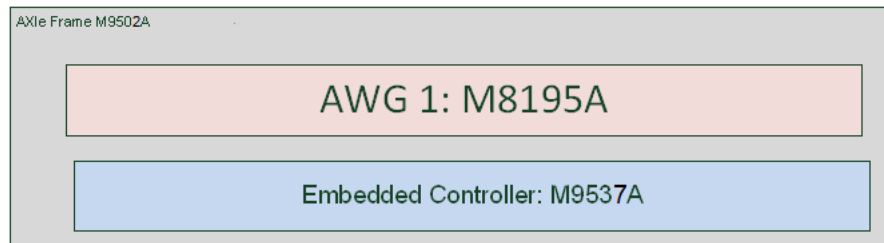

Figure 8 Hardware setup for Single-lane with module M8195A
- 1 Insert an M8195A and an Embedded Controller in the 2 slot frame AXIe chassis as shown in Figure 8.